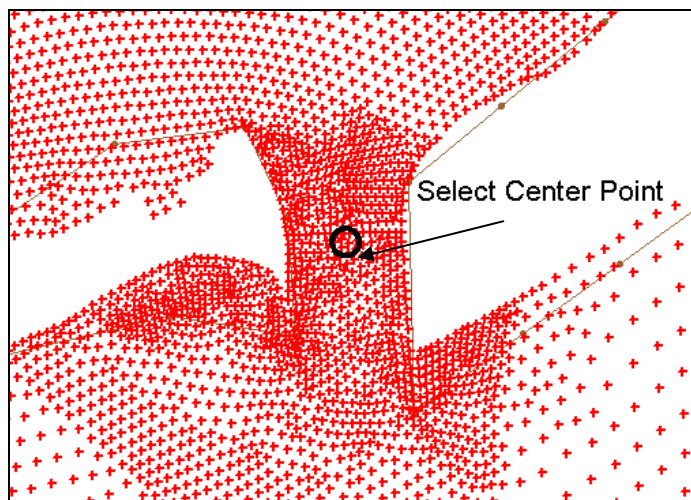

Figure 17-4 Choose a center point.
2. Click on one of scatter points (Figure 17-4) in the middle of the inlet using the *Select Scatterpoints*  tool. Make note of this point's *X* and *Y* coordinates in the *Edit Window* at the top of the screen.